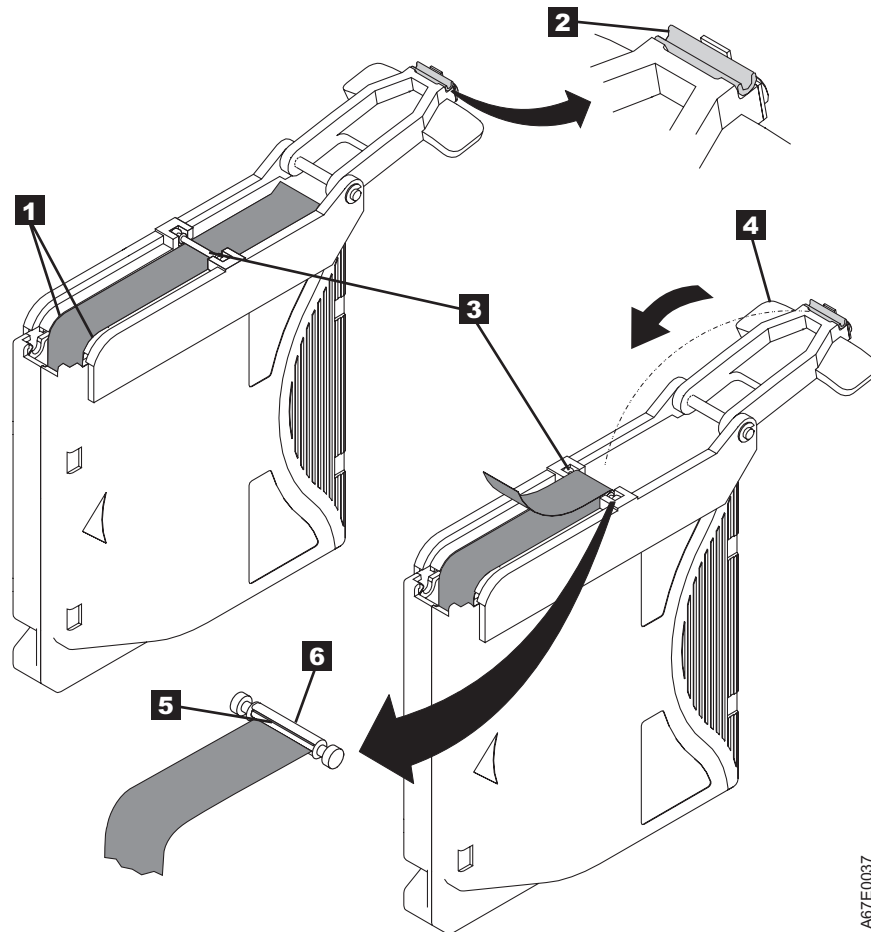

Figure 78. Attaching the leader pin to the tape
7. Position the tape in the alignment groove of the leader pin attach tool (see **1** in Figure 78).
8. Place a new C-clip into the retention groove **2** (Figure 78) on the leader pin attachment tool and make sure that the clip's open side faces up.
9. Place the leader pin (from step 6 on page 178) into the cavity **3** (Figure 78) of the leader pin attach tool.
10. Fold the tape over the leader pin and hold it with your fingers (see Figure 78).